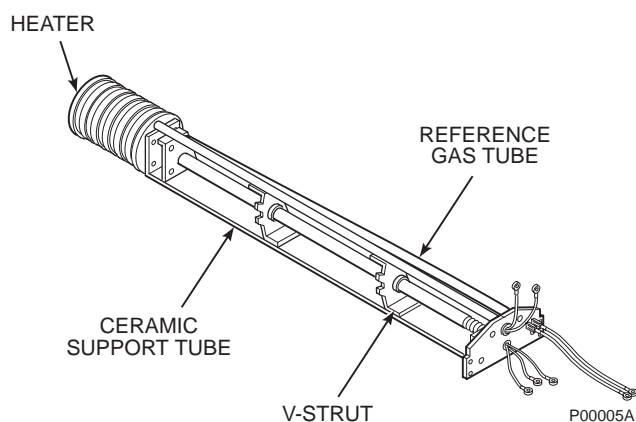

Figure 1-5. Inner Probe Assembly
1-3. INNER PROBE ASSEMBLY. The inner probe assembly, Figure 1-5, consists of six main parts:
- d. A platinum screen pad which forms electrical contact with the inner electrode of the electrochemical cell. (Not visible in Figure 1-5; located at end of ceramic support rod.) The pad is attached to an inconel wire which carries the signal to the terminal strip.